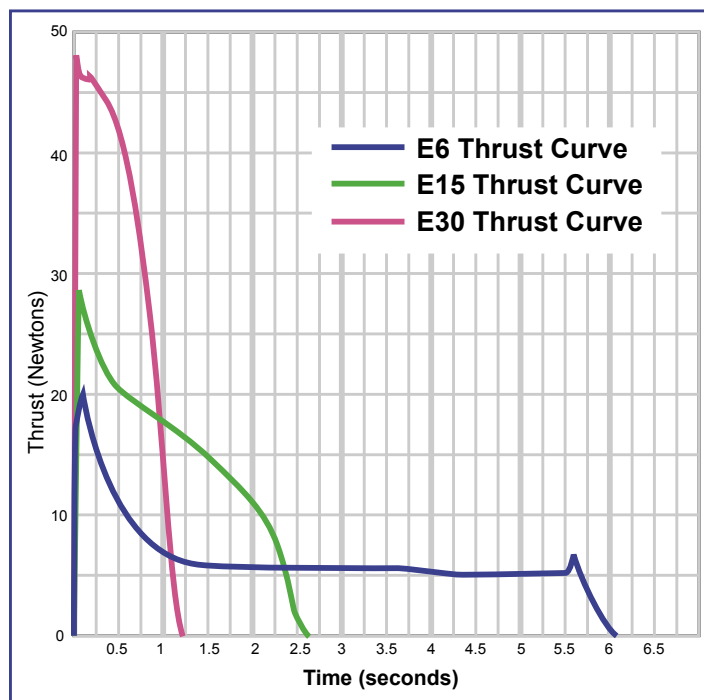

Figure 1: Thrust curves of three different E-size motors.
**Thrust** is the force that propels a rocket. Newton's second law is the relationship between force, mass and acceleration. Stated mathematically,  $F=ma$ , where  $F$  is force,  $m$  is mass, and  $a$  is acceleration. The MKS unit of mass is the Kg, and the unit of acceleration is  $m/sec^2$ . The MKS unit of Force is the Newton and is  $1 Kg*m/sec^2$ . The thrust of a given motor is not usually constant but varies over time. The thrust that manufacturers report for their motors is the average thrust. Motor manufacturers also provide a graph of thrust as a function of time as shown in Figure 1. If you know both the total impulse and the average thrust of the motor, you can calculate the burn time (in seconds) by dividing the total impulse (in Newton-seconds) by the average thrust (in Newtons).